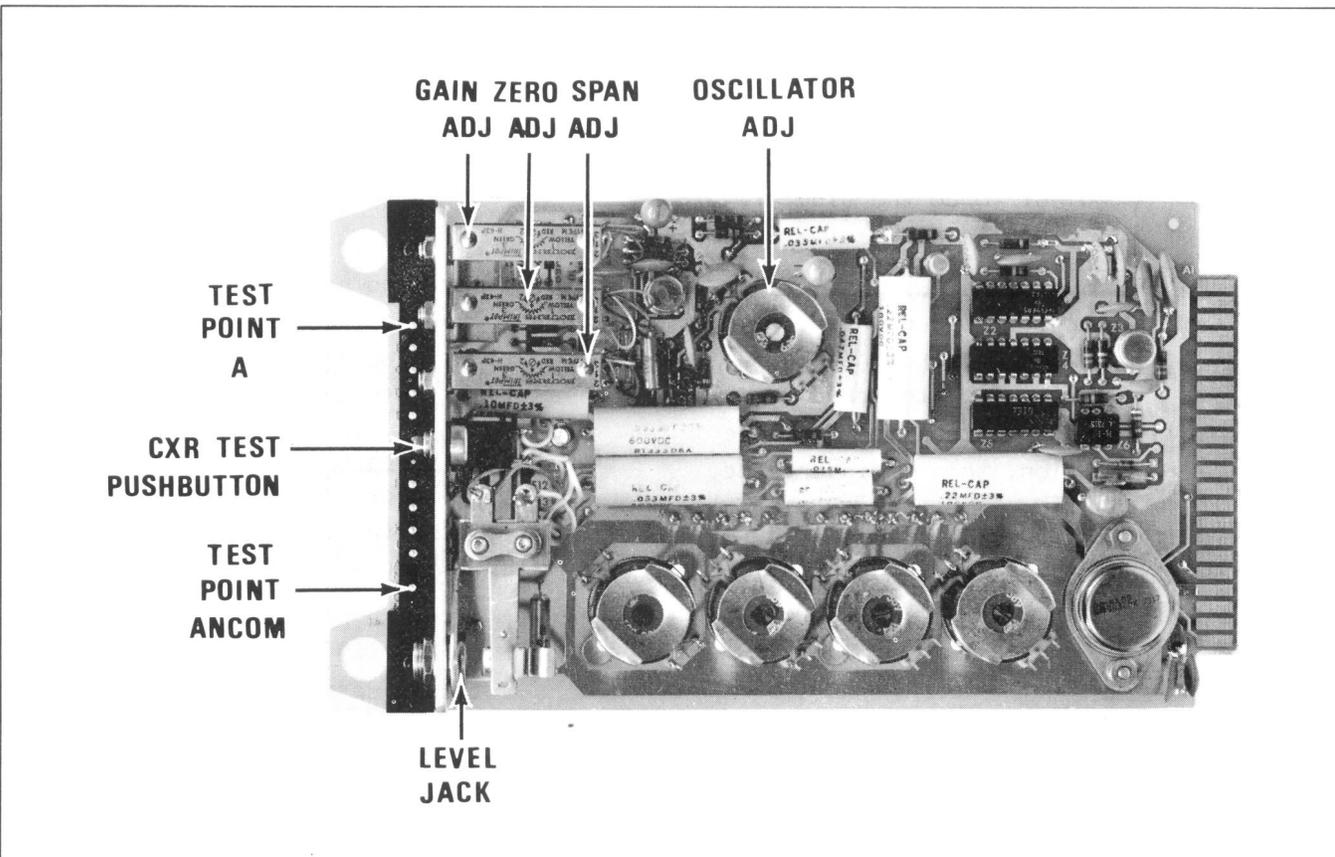

Figure 26 - Card 001485—Component Arrangement
- a. Using a nonmetallic tuning tool, adjust the OSCILLATOR ADJ slug (Figure 26) for a counter reading of precisely 4250 Hz, which is twice the actual oscillator frequency. (The CXR TEST pushbutton must be operated during this step.)